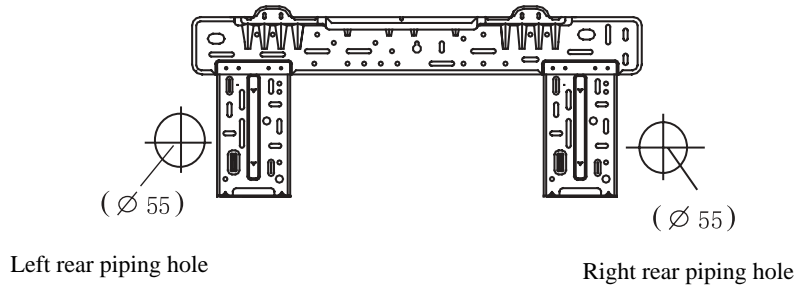

Fig. 11-1
- As shown in fig. 11-1, after deciding the location of piping hole, drill a hole with downward slant ($\phi 55$).